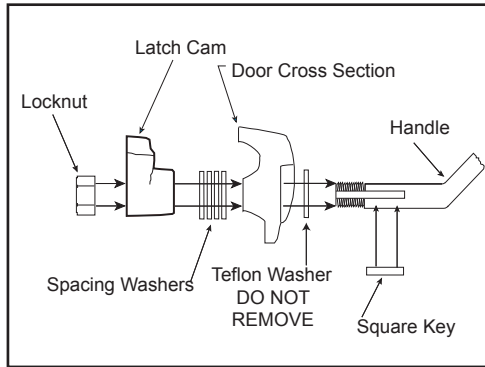

Figure 20.1
3. Install spacing washers(s) as shown in **Figure 20.1**.